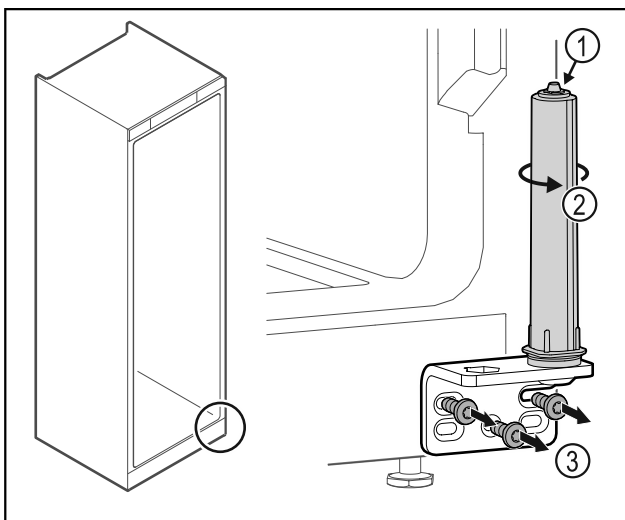

Fig. 32
- ▶ Do not disassemble the door closing system Fig. 32 (1).
- ▶ Turn the closing system Fig. 32 (2) until it clicks.
- ▶ Unscrew the hinge Fig. 32 (3).